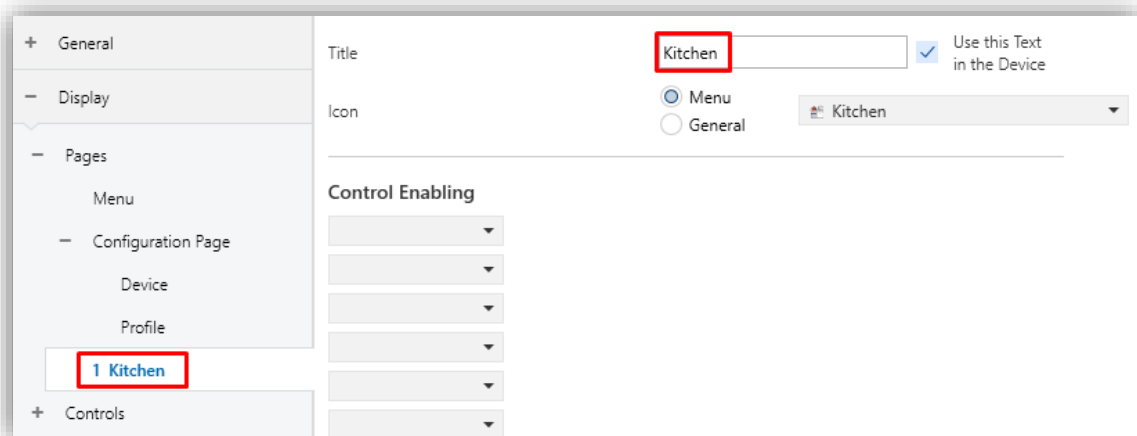

Figure 38. Configuration Page n
- **Title**: text field that identifies each of the enabled pages. In addition, this field allows changing the name of the tab in ETS left menu, as shown in the Figure 38.